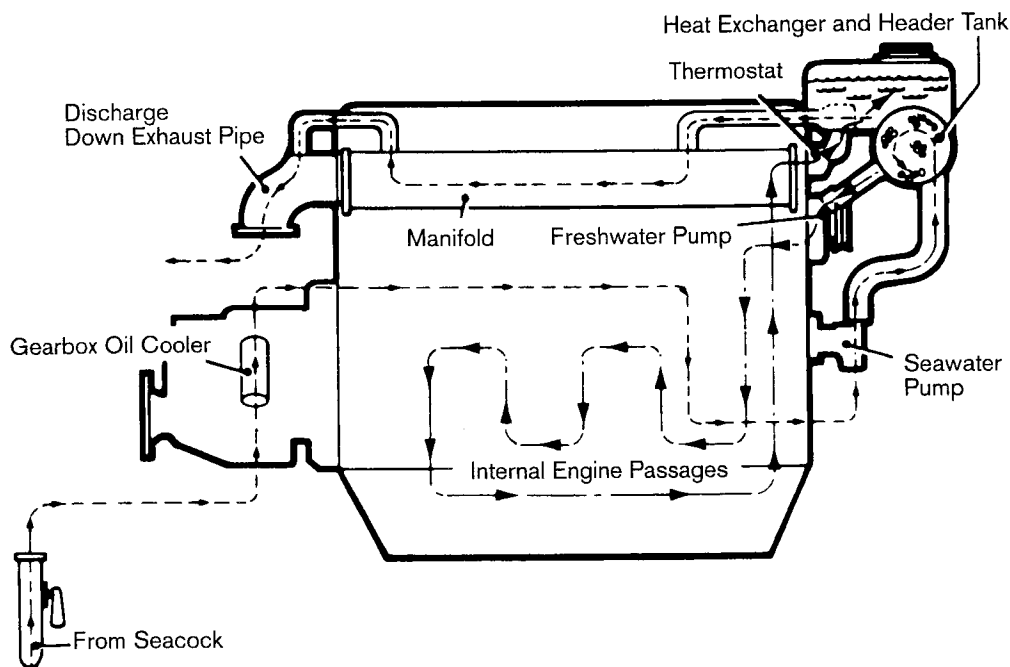
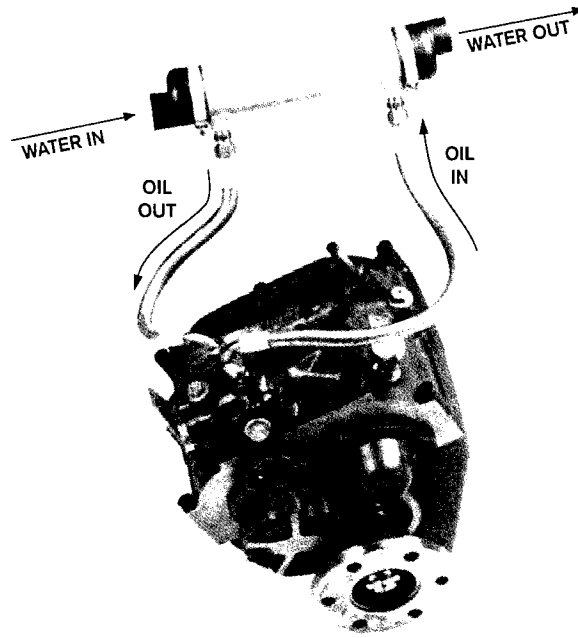

Fig. 8 Engine and gearbox cooling circuit
Fig. 9 Oil cooler connections
**CAUTION:** Failure to correctly install an oil cooler into the lubrication circuit can result in damage to the gearbox see Fig. 8 below and page 17, Fig. 9 and 10 for correct circuit. After a gearbox failure it is extremely important to flush cooler and hoses completely to remove any contamination. Failure to do so could result in the new/repared gearbox failing prematurely.
The oil cooler can now be connected to the engine cooling system as outlined at Fig. 8.